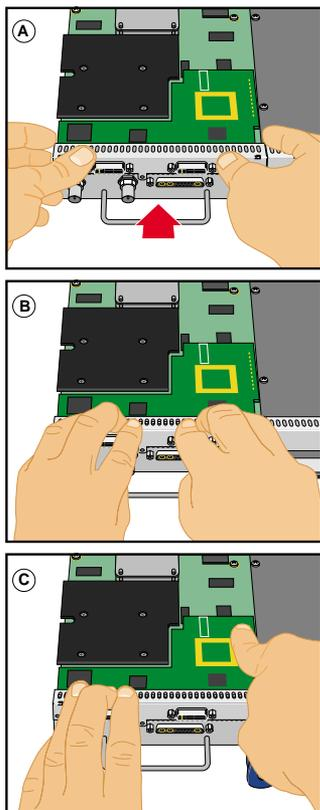

Figure 1-16 Seating the Display Option Board On the VPro Graphics Board (front view)
- Push the top edge of the Display Option Board I/O panel against the VPro Graphics board I/O panel (see A in Figure 1-16).